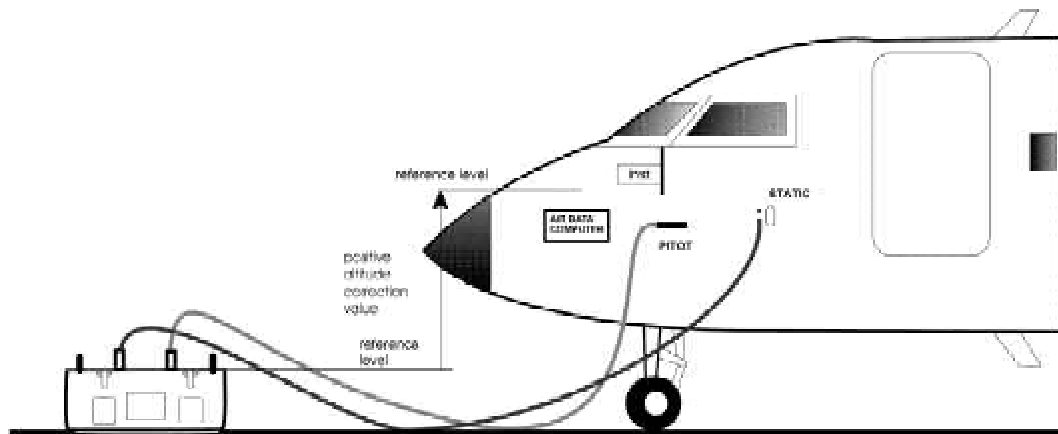

FIGURE 2-2 ADTS 505 ALTITUDE CORRECTION ON-AIRCRAFT
- It is important that the position of the ADTS 505 in relation to the aircraft altitude sensors is known. An altitude correction must be made to allow for the difference in height between the reference level and the aircraft's altitude sensors (Figures 2-2 and 2-3). The Reference section contains details of altitude correction.